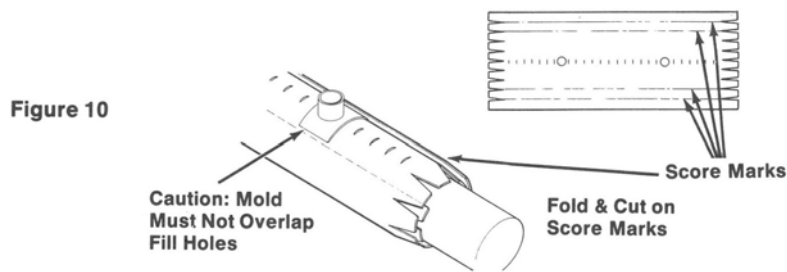

Figure 10
7.3 On small cables, where mold overlaps mold fill-holes, reduce mold width by folding, then cutting on appropriate score marks. (Figure 10)